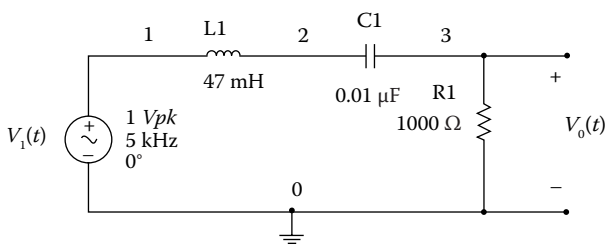

FIGURE 4.18
For the circuit shown in Figure 4.18, (1) use the Network Analyzer to plot the magnitude and phase characteristics. (2) Determine the resonant frequency and bandwidth of the circuit. (3) Calculate the theoretical values of the resonant frequency and the bandwidth of the series RLC circuit. (4) Compare the results obtained in parts (2) and (3).
Use a breadboard to build the circuit shown in Figure 4.18. Connect the AWG1 (yellow wire) to node 1 of the circuit. Also, connect the scope
Magnitude and phase response of the RLC circuit of Figure 4.18.